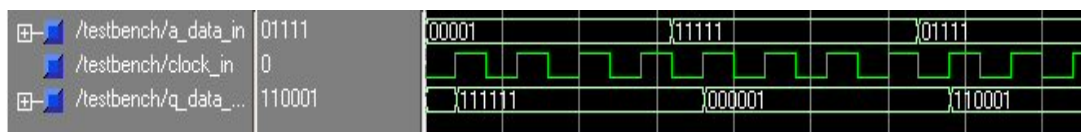

Figure 9: ModelSim Waveform
3. Your waveform should look like Figure 9.